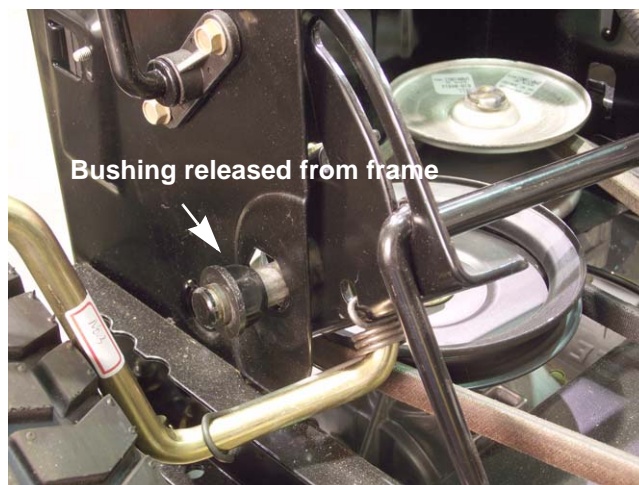

Figure 8.37
4. Slide the deck lift shaft to the right with enough force to pop out the right side bushing. See Figure 8.37.